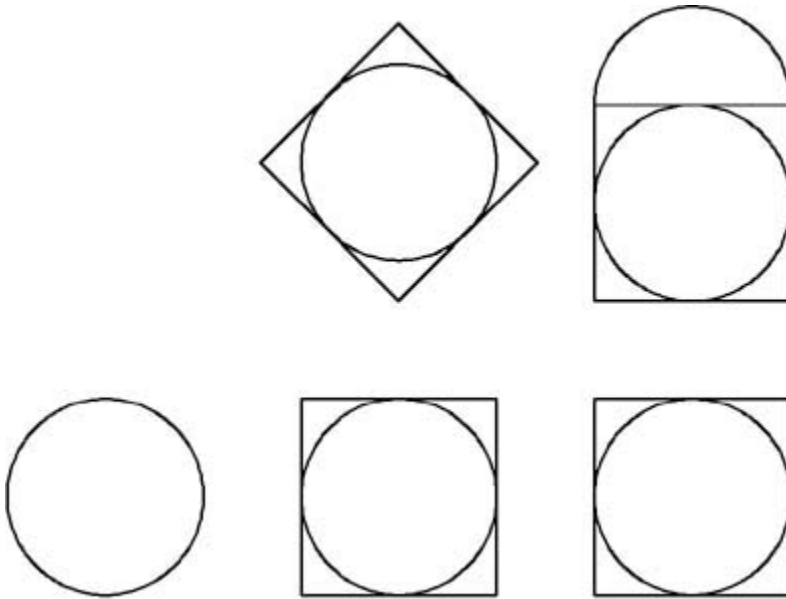

Figure 4-23
- 5** Type **1<Enter>** to specify a radius of 1. AutoCAD draws the arc. Your drawing should look like Figure 4-23.